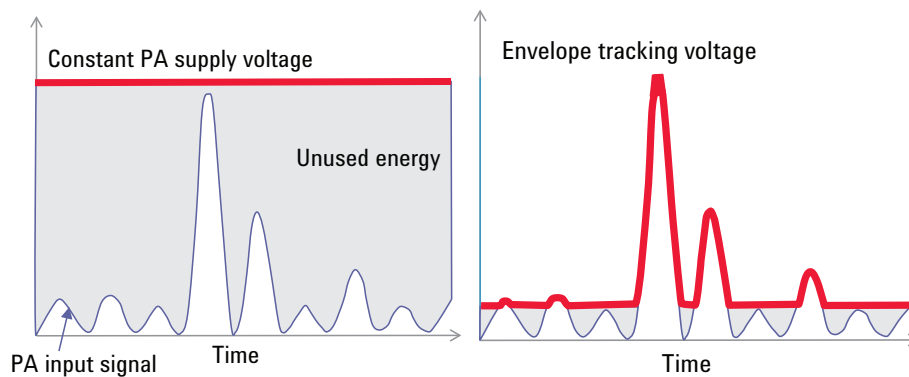

Figure 1. Time domain view of the input signal and bias voltage.
With the introduction of 4G LTE, mobile communications were able to achieve higher data throughput than ever before. However that achievement is accompanied by unprecedented battery requirements for mobile terminals. LTE employs the SC-FDMA modulation format in the uplink and it has a higher Peak-to-Average Ratio (PAR) than W-CDMA. One of the most power-hungry components of a mobile terminal is the power amplifier (PA). As shown in Figure 1, the power level of the LTE uplink signal stays relatively low most of the time and goes to peak power only occasionally, but the PA is designed to deliver the highest efficiency only at peak power. Since the high power supplied to the PA won't be used most of the time, it is mostly dissipated as heat and causes battery drain, impacting the thermal design power (TDP) of the mobile terminals. Envelope tracking (ET) has come to the forefront as a possible solution for this issue in mobile RF front end design. ET dynamically adjusts DC supply voltage based on the "envelope" of the PA input signal and delivers higher voltages only when needed, improving battery consumption and heat dissipation in the PA.